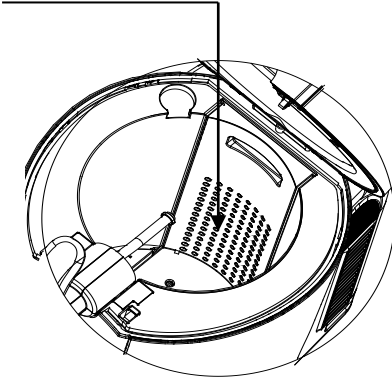

Figure 5
5. The beertender can work without water. To achieve best performance, put 800mL of water or to the max line into the cooling cavity (Figure 5).